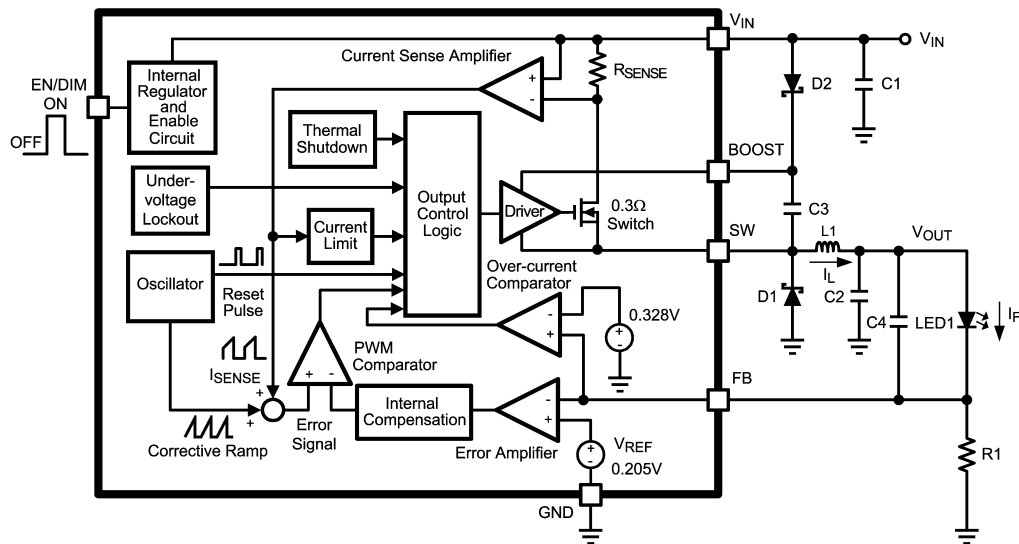
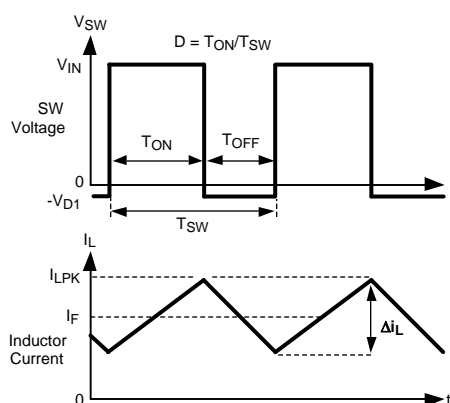

Figure 13. Simplified Block Diagram
Figure 14. SW Pin Voltage and Inductor Current Waveforms of LM3405A
The following description of operation of the LM3405A will refer to the Simplified Block Diagram (Figure 13) and to the waveforms in Figure 14. The LM3405A supplies a regulated output current by switching the internal NMOS power switch at constant frequency and variable duty cycle. A switching cycle begins at the falling edge of the reset pulse generated by the internal oscillator. When this pulse goes low, the output control logic turns on the internal NMOS power switch. During this on-time, the SW pin voltage (V_{SW}) swings up to approximately V_{IN} , and the inductor current (I_L) increases with a linear slope. I_L is measured by the current sense amplifier, which generates an output proportional to the switch current. The sense signal is summed with the regulator's corrective ramp and compared to the error amplifier's output, which is proportional to the difference between the feedback voltage and V_{REF} . When the PWM comparator output goes high, the internal power switch turns off until the next switching cycle begins. During the switch off-time, inductor current discharges through the catch diode D1, which forces the SW pin to swing below ground by the forward voltage (V_{D1}) of the catch diode. The regulator loop adjusts the duty cycle (D) to maintain a constant output current (I_F) through the LED, by forcing FB pin voltage to be equal to V_{REF} (0.205V).
Capacitor C3 and diode D2 in Figure 13 are used to generate a voltage V_{BOOST} . The voltage across C3, $V_{BOOST} - V_{SW}$, is the gate drive voltage to the internal NMOS power switch. To properly drive the internal NMOS switch during its on-time, V_{BOOST} needs to be at least 2.5V greater than V_{SW} . A large value of $V_{BOOST} - V_{SW}$ is recommended to achieve better efficiency by minimizing both the internal switch ON resistance ($R_{DS(ON)}$), and the switch rise and fall times. However, $V_{BOOST} - V_{SW}$ should not exceed the maximum operating limit of 5.5V.
The first method is shown in the Simplified Block Diagram of Figure 13. Capacitor C3 is charged via diode D2 by V_{IN} . During a normal switching cycle, when the internal NMOS power switch is off (T_{OFF}) (refer to Figure 14), V_{BOOST} equals V_{IN} minus the forward voltage of D2 (V_{D2}), during which the current in the inductor ($L1$) forward biases the catch diode D1 (V_{D1}). Therefore the gate drive voltage stored across C3 is:
The inductor value determines the output ripple current (Δi_L , as defined in Figure 14). Lower inductor values decrease the size of the inductor, but increases the output ripple current. An increase in the inductor value will decrease the output ripple current. The ratio of ripple current to LED current is optimized when it is set between 0.3 and 0.4 at 1A LED current. This ratio r is defined as: